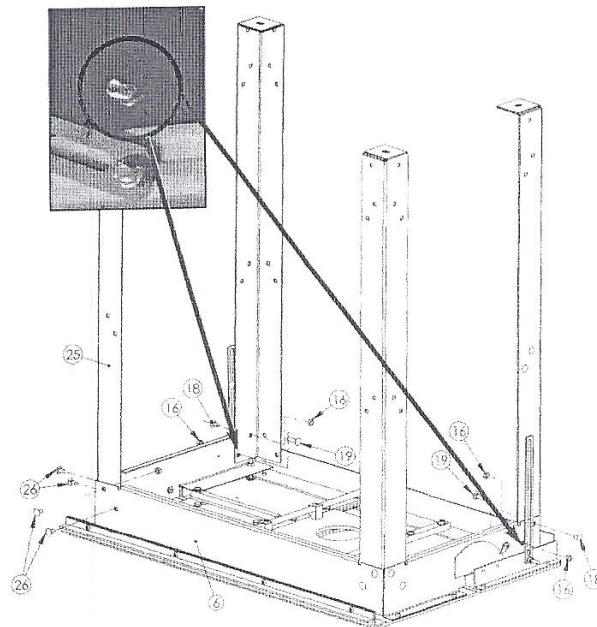

Figure 2. Table legs and front frame
- Place the front frame in place (Figure 2).
- Attach the legs and the front frame using (10) 1/4-20 x 5/8" carriage bolts. The other (2) bolts are installed on the unit with and screws (figure 2a). Remove the two carriage bolts with the hand screws. Install the 10 bolts and hex nuts the hold the legs and front frame as shown in figure 2. Install the 2 bolts that you removed. Place the bolt thru the frame and leg, then the hex nut, then the nylon washer, then the tilt tale slide. Then the steel washer, and finally the hand screw as shown in figure 2b.